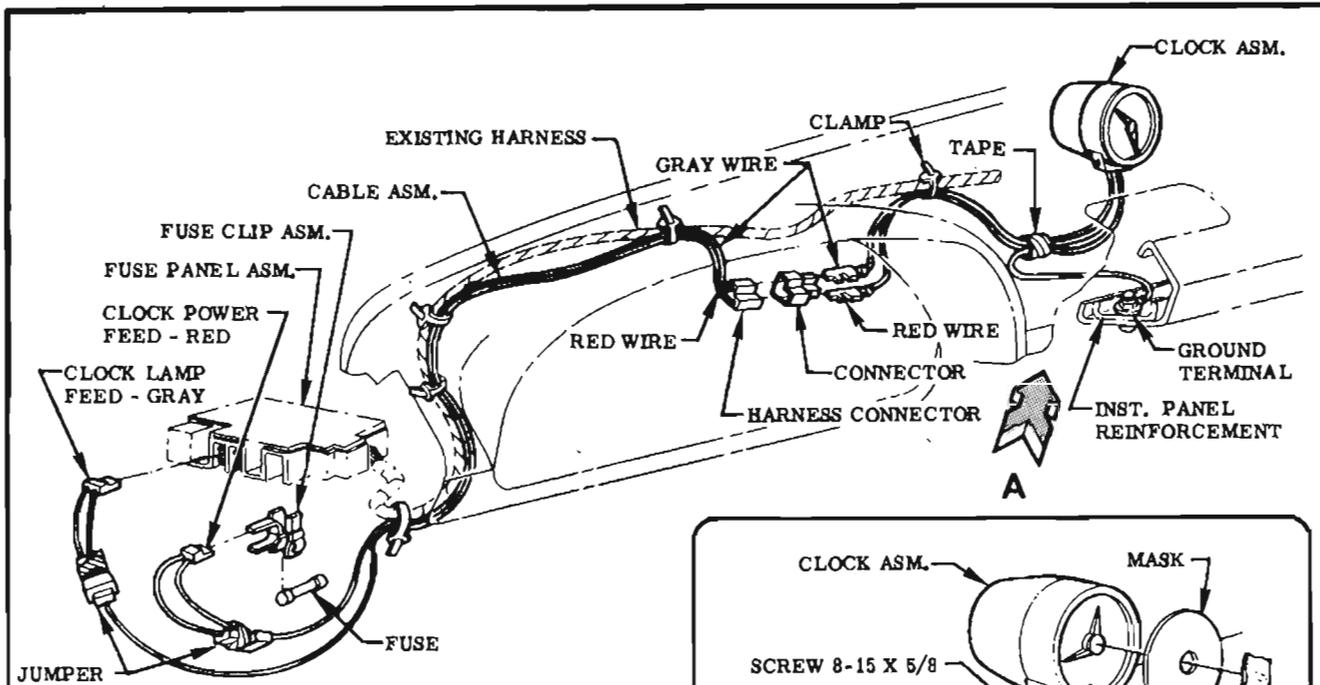

FIG. 5 WIRE ROUTING-CORVAIR
STEP 3 (ON CORVAIR WITH PADDED DASH) PLACE MOUNTING BRACKET IN TRIM PLATE & POSITION ON PAD. SCRIBE AROUND PLATE. REMOVE PLATE & MOUNTING BRACKET. CUT & REMOVE PAD TO DIMENSION SHOWN. SEE VIEW A, FIG. 5.
STEP 6 FASTEN MASK TO LENS BY PLACING MASKING TAPE OVER HOLE IN MASK. ALSO COVER STEM WITH TAPE. SEE FIG. 5.
STEP 12 INSERT CABLE INTO 2-WAY CONNECTOR & PLUG IN CLOCK WIRES, MATCHING COLORS. SEE FIG. 5, 6, 7 OR 8.
STEP 13 ROUTE CABLE WITH EXISTING HARNESS TO FUSE PANEL & ATTACH TO EXISTING HARNESS WITH CLAMPS. SEE FIG. 5, 6, 7 OR 8.
STEP 14 (CORVAIR, TRUCK R10 & TILT TRUCK) TAPE GROUND LEAD WIRE TO CLOCK WIRES. SEE FIG. 5, 6 OR 7.
STEP 15 INSTALL FUSE CLIP & FUSE INTO RECEPTACLE IN FUSE PANEL ASM. MARKED "GL. BOX LP." & PLUG IN RED WIRE CONNECTOR (POWER FEED). SEE FIG. 5, 6, 7 OR 8.
STEP 16 PLUG GRAY WIRE CONNECTOR (LAMP FEED) INTO FUSE PANEL ASM. RECEPTACLE MARKED "PANEL LPS." SEE FIG. 5, 6, 7 OR 8.